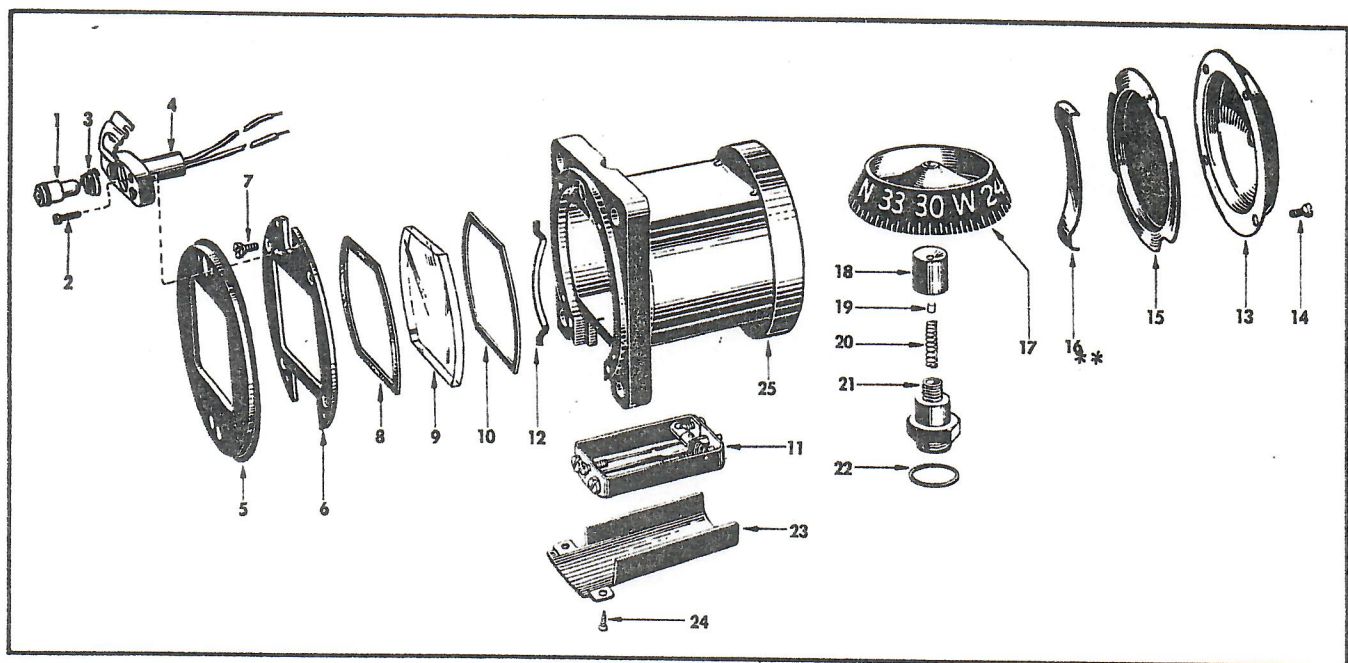

Figure 3. Compass Assembly
2. DISASSEMBLY. (See figure 3.)
a. Disassemble the compass in the order of key index numbers assigned to the exploded view illustration, figure 3, except that attaching parts are listed following the parts they attach. For example: Item 14 must be removed to free item 13 and permit its removal.
g. Do not remove the compensator housing (23) or drive screws (24) unless replacement is required.
4. INSPECTION. (See Table I.) The key index numbers in Table I refer to figure 3.
9. REASSEMBLY. (See figure 3.)
b. Exercise extreme care when installing and tightening the jewel post (21) to prevent damage to either the jewel post or the card assembly (17). Tighten the jewel post with a 1/2-inch, thin-walled open-end wrench.
c. If the lubber line (12) was removed during disassembly, install a new lubber line by pressing each end into the grooves in the case (25). Stake the grooves slightly to make certain the lubber line will be held tightly in the case. (Refer to paragraph 7 for proper adjustment instructions.)
d. After assembling the compass, with the exception of items (1 through 10) immerse the unit in a container prepared for filling the compass by the evacuation method. Position the compass so that the mounting surface is facing upward and make sure the compass will be covered completely by the compass fluid. The container should be fitted with an air-tight lid so that a vacuum line and gage can be attached to the lid in order to remove all air from the compass when filling with fluid. The size of the container should not be any larger than necessary to accommodate the compass in the position stated above and to permit sufficient hand room to lift the compass out of the container. Before evacuating the container, rotate the compass end to end and side to side several times to assist in removing air bubbles. With the compass in an upright position, and the fluid approximately 1/2 inch above the top of the compass, place a rubber gasket under the lid of the evacuating container and connect a vacuum pump, capable of producing a vacuum of 28 to 29 inches of mercury (Hg) in the container. Continue the evacuating process for a minimum of three hours in order to remove all traces of air from the compass. After the evacuation process has been completed, place the gasket (10), lens (9), gasket (8) and bezel (6) on the case (25) and install the four bolts (7). Tighten the bolts (7) before changing the position of the compass. Avoid tipping the compass from side to side while tightening the bolts in order to maintain maximum